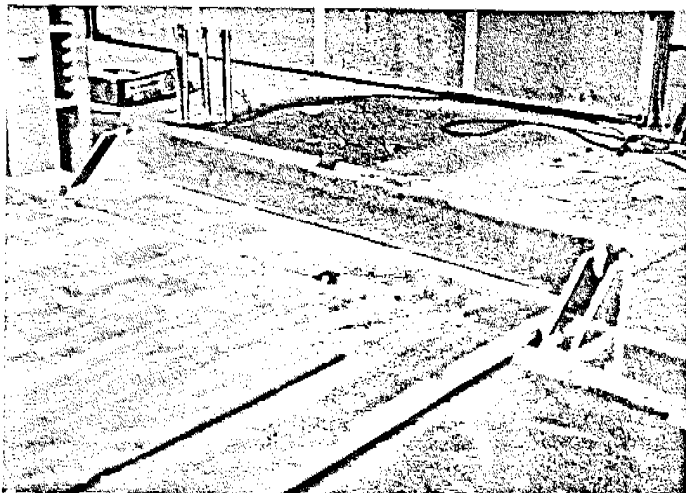

FIGURE 9
3. **LIFT PLATE** with hoist (each end) and push plate sideways on rail and place on purlings abutting primary deck. (See Figures 9 and 10).